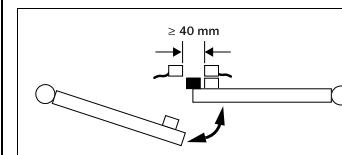

Fig. 7: Mounting example on swivelling doors
- Minimum distance between two adjacent magnetic safety switches: 40 mm. On swivelling doors the actuator is to be fitted to the closing edge (Fig. 7).